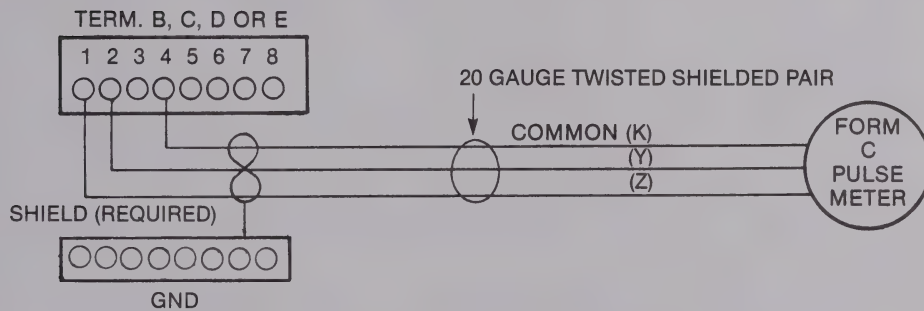

Figure 3.7: Wiring Pulse Initiating Demand Meter (form C)
To wire a Form C pulse initiating demand meter, do not remove jumper JU1 on the Demand Input Pulse Card. Run the Common (K) to connection #4 on the B terminal block. Connect the other two input lines (Y and Z) to connections #1 and #2 respectively, as shown in Figure 3.7.